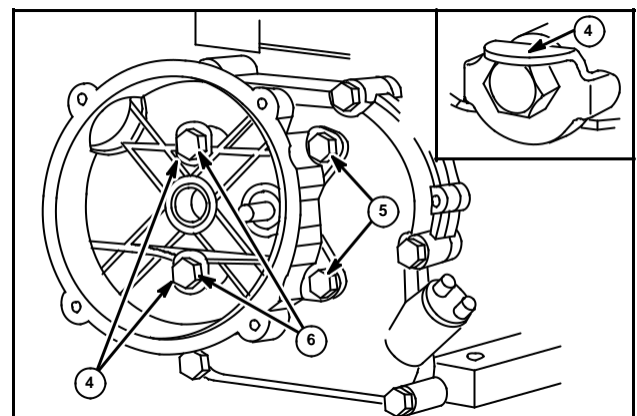

Fig. 29
4. Bend lock tabs (if used) up against flats on head of cap screws, Fig. 29.
5. Install two short screws (5) with lock washers.
6. Install two long screws (6) and screw locks (4, if used) with lock tabs flat.